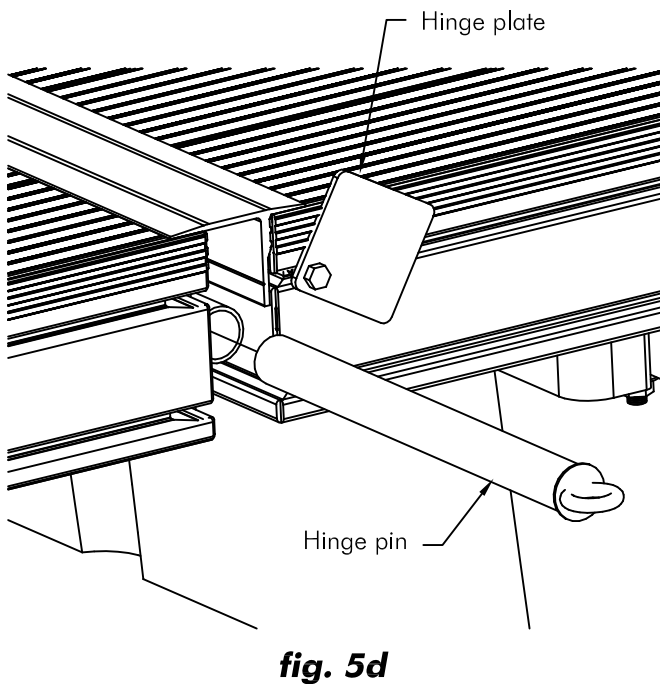

fig. 5d
2. Flip open the hinge plate and insert the hinge pin through the 3" and 6" hinges. See fig. 5d. You may need to push up and down on the sections to line up the hinges. Repeat on other side. Close hinge plates to prevent hinge pin from coming out.